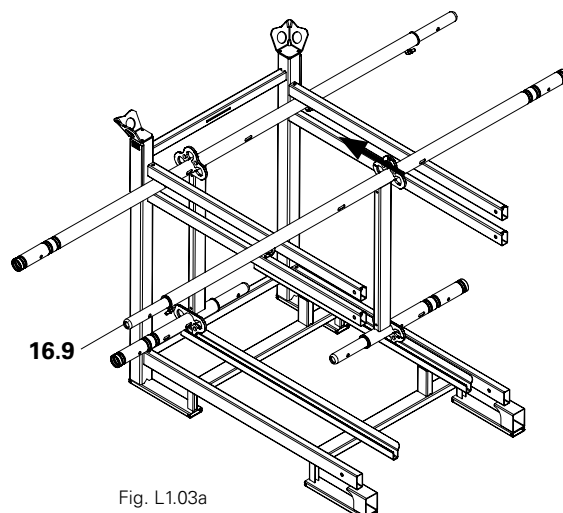

Fig. L1.03a
2. Place the next Easy Frame EVF on the top cantilever, as well as on the top support rail and push it to the rear. The spigot of the Easy Frame (**16.9**) is pointing to the left. (Fig. L1.03a)